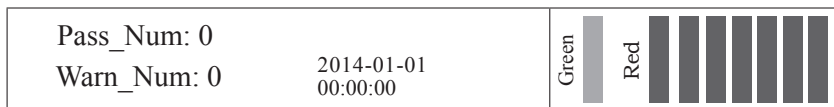
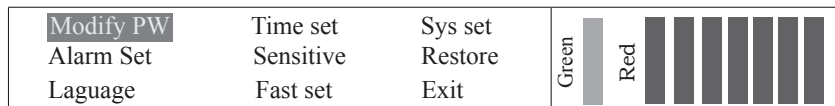
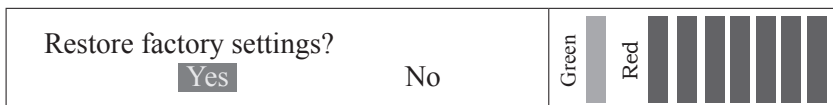

Fig. 1
Fig. 4
Fig. 11
1. **Startup:** The system under the shutdown mode can be started by pressing “A” for more than 1s. The system performs the signal self-inspection during the startup. If the inspection meets the requirement, a “√” will be shown, if the inspection fails to meet the requirement, an “×” will be shown. After the inspection finishes and the frequency setting is OK, the main interface will be shown as Fig. 1.
Select “Restore” in the parameter setting interface to enter the sensitivity setting interface, see Fig. 11. Press “B” or “C” to select “Yes” or “No”. If “Yes” is selected, the system, by pressing “ENT”, will restore the factory settings and go back to the interface as shown in Fig. 1. If “No” is selected, the system, by pressing “ENT”, will not restore the factory settings but go back to the interface as shown in Fig. 4.